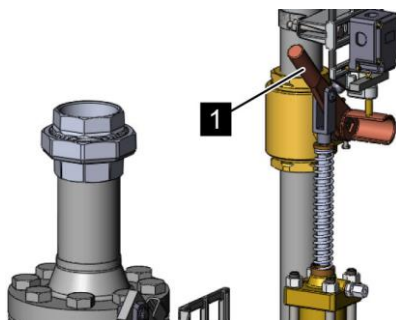

Fig. 106: Operating element
1. ➤ Fit the hand lever (Fig. 106/1) onto the operating element of the selector valve.